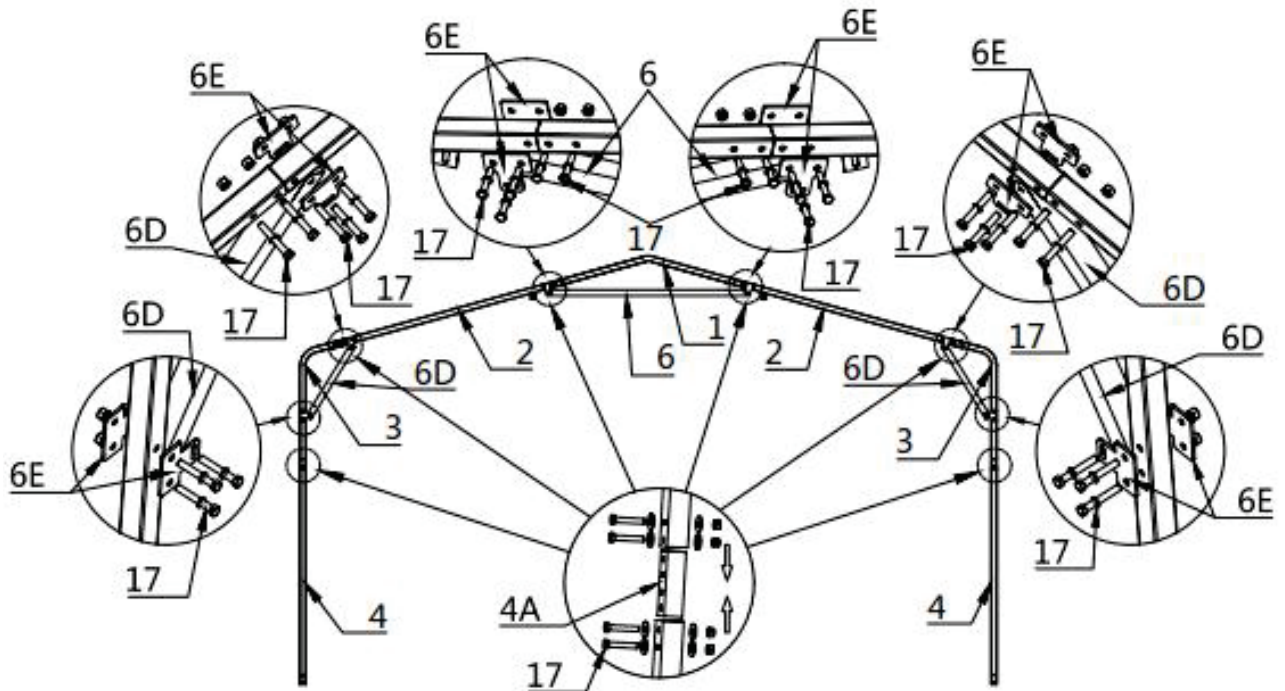

Figure 3
- Parts used to install (3) middle trusses in this step (refer to Figure 3).